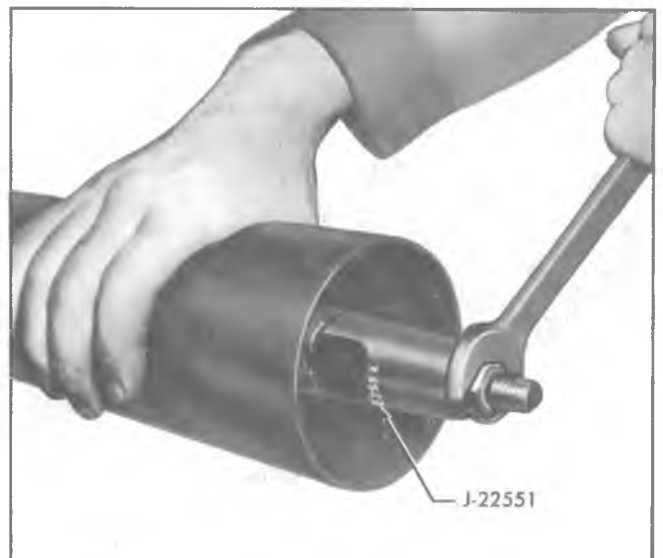

Fig. 28—Removing Shift Tube Assembly
14. Remove the shift tube assembly using Tool J-22551 (fig. 28). Insert the hooked end of the tool into the notch in the shift tube just below the shift lever housing key. Pilot the sleeve over the threaded end of the tool and into the upper end of the shift tube. Force the shift tube out of the housing by turning the nut onto the tool. If the shift tube is not completely free when the nut is bottomed on the threads, complete the removal by hand.